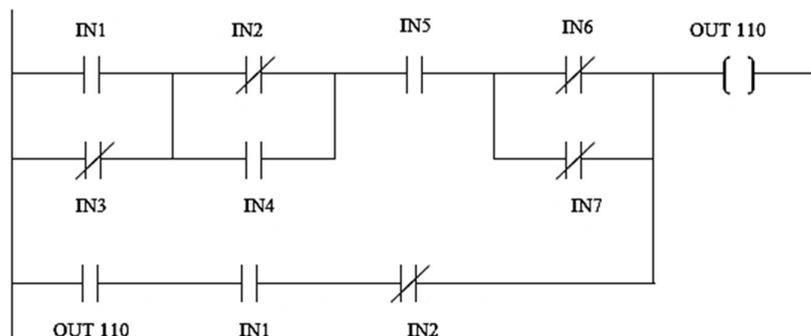

FIG. 1
Q.6(c) Draw the AND OR lamp circuit. Draw its ladder diagram with the control transformer and fuse. Write down the mnemonic programming code for the ladder diagram shown in Figure 1. [6]